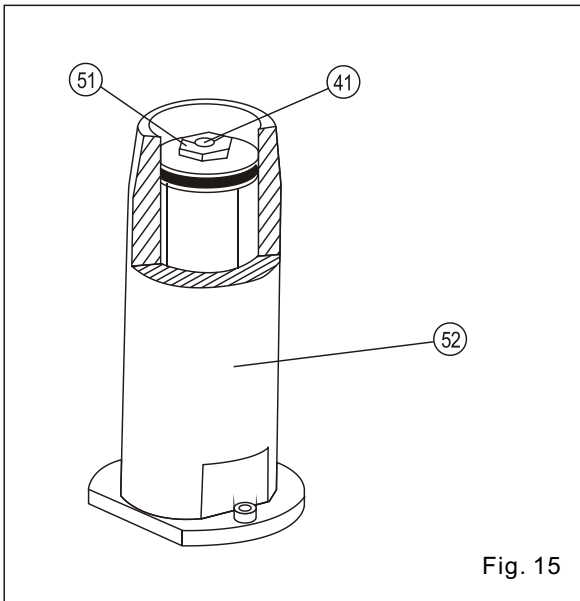

Fig. 15
(2) To loosen the screw (No. 41 in Fig. 15), turn the screw cap (No. 51 in Fig. 15) to adjust the height of closing needle (No. 8 in Fig. 14), clockwise to lift and counterclockwise to lower the closing needle. After adjustment is done, fasten the screw (No. 41 in Fig. 15), as indicated in Fig. 15.